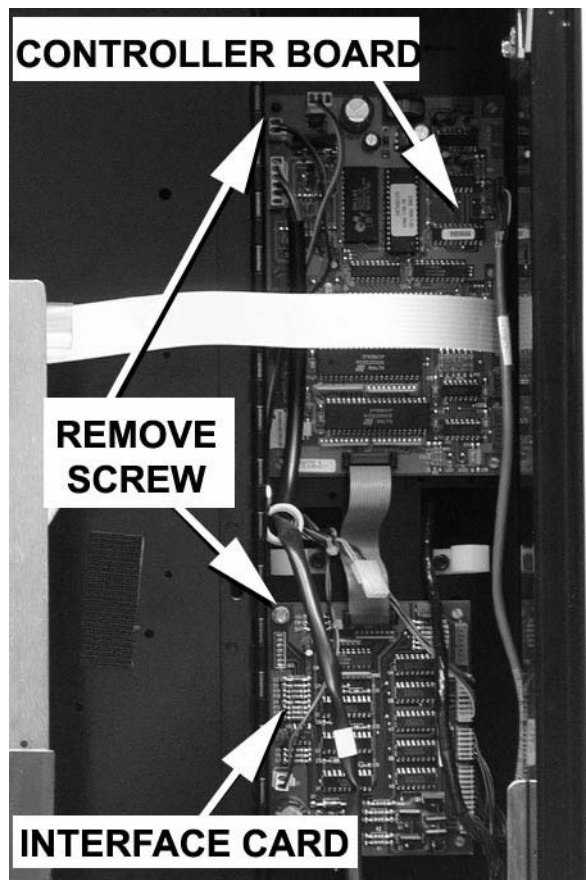

Figure 8
4. Remove one screw as shown from the controller board (figure 8). Save the screw for later use.
4. Remove one screw as shown from the interface board (figure 8). Save the screw for later use.